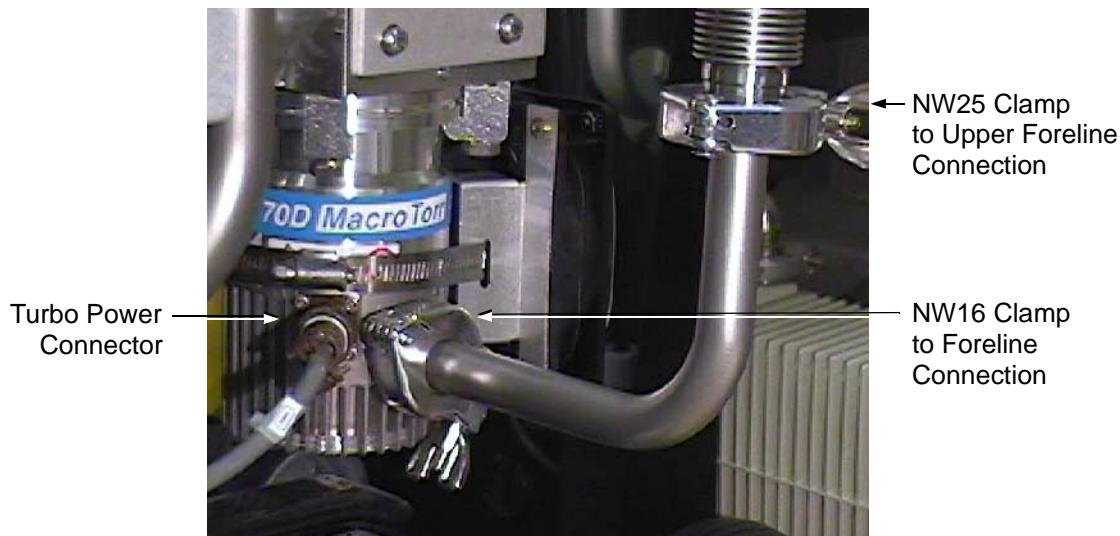

Figure B-7 Turbo Power and Foreline to Turbo Connections
3. Disconnect the power from the turbo pump by pushing the green sleeve on the end of the connector in and then turning the sleeve to release the connector (Figure B-7).
6. Loosen the wing nut and remove the NW25 clamp that connects the foreline to the turbo (Figure B-7 on page B-10).
- Loosen and remove the NW25 clamp to the upper foreline connection (Figure B-7 on page B-10).
5. If the foreline was removed from the upper foreline connection (Figure B-7 on page B-10), do the following: